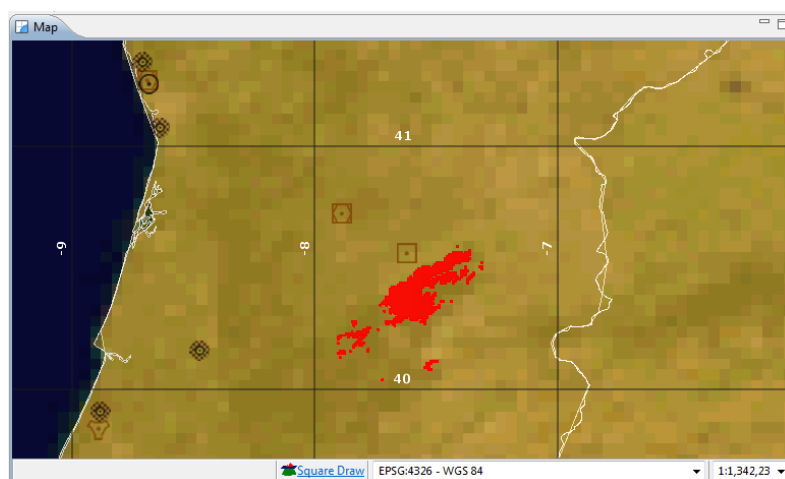

Figure 213: Terrain Altitude Cut Sample
5. The result appears on the map (Figure 213).